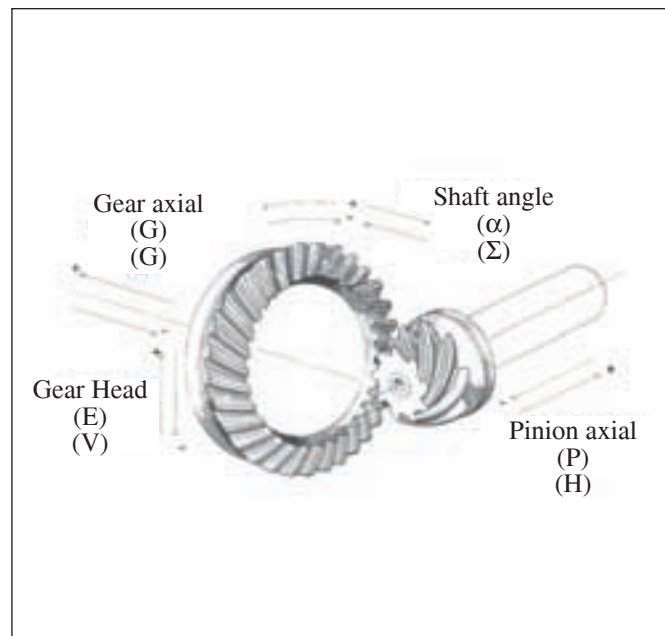

Figure 9—Definition of mounting deflections and adjustments.
Simulation of changes of the assembly errors and misalignments caused by the deflection of the gear shafts are taken into account. For this purpose, the adjusting parameters, gear head offset change ΔE , gear axial change, ΔG pinion axial change ΔP , and shaft angle change are $\Delta \Sigma$ incorporated into the TCA model (Fig. 9). The output of a TCA program is the scaled graphs of transmission errors and tooth-bearing contact patterns that predict the results from a bevel gear testing machine. The program incorporates tooth Toprem, Flankrem, and edge contact on the whole tooth surface, including those surface parts that are generated by the blade Toprem and Flankrem.
(10) Parameters V , H , G and Σ illustrated in Figure 9 have the same geometric definition corresponding to E , P , G and α , except that they represent the adjustment of the position of the initial bench-contact pattern.